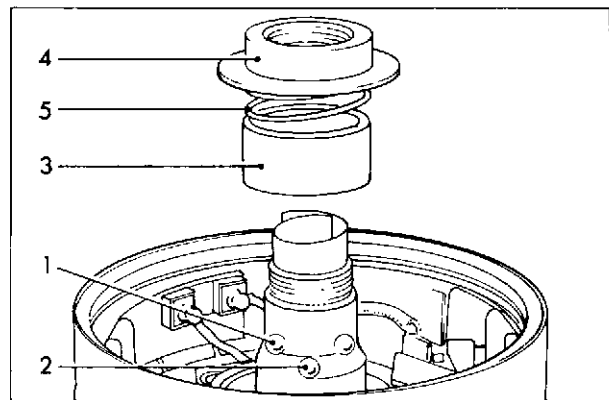

Fig. 20 Assembling pinion sleeve
3. Grip the pinion teeth firmly in a soft jawed vice so that the threaded end is uppermost as shown in fig. 20.